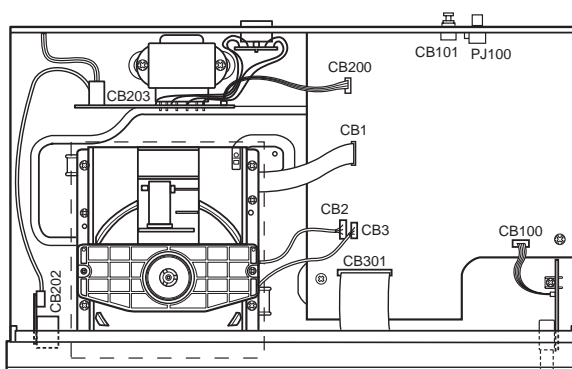

Fig. 2
- Press the OPEN/CLOSE key and open the tray. Then remove the Lid attached to the front edge of the tray in Fig. 2. Press the OPEN/CLOSE key and close the tray, then unplug the power cord.
- Remove 2 connectors (CB202, CB301) in Fig. 2.
- Remove a connector (CB100) in Fig. 2. (CDX-496 only)
- Remove 3 connectors (CB1, CB2, CB3) in Fig. 2.